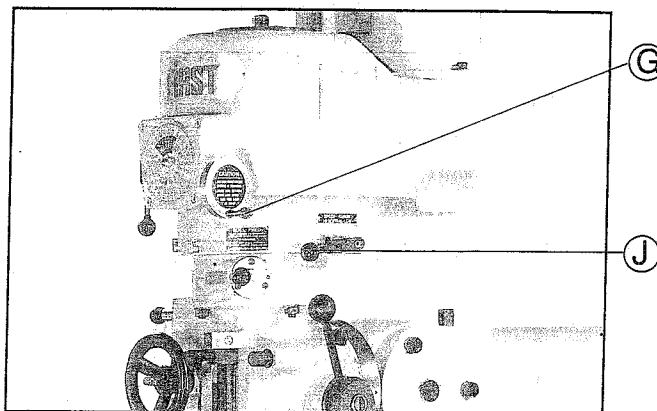

Figure 15
(1) Change of High and Low Speeds:
The speed change may be effectuated by the chosen high and low speed lever (figure 15(J)). When (J) is engaged in the right front, it is for the high speed and the spindle may rotate as high as 500 to 3,000RPM. When (J) is positioned at the right rear, the spindle may have a speed of 60-580RPM. The neutral lever position is in the right down.
(2) Speed Change Handwheel:
Stepless speed variation between high and low speeds may be controlled by means of the turning handwheel (Figure 15(G)) When it is turned clockwise, it is for higher speed, and vice-versa.